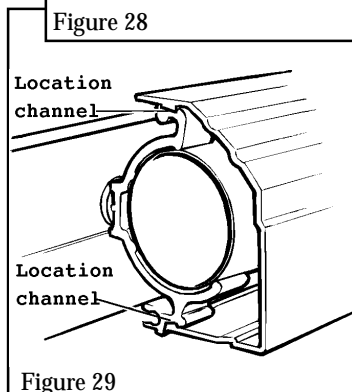

Figure 29
8.14.2 Secure the covers in front of the ducts by springing them over the location channels in the support brackets (see figure 29).